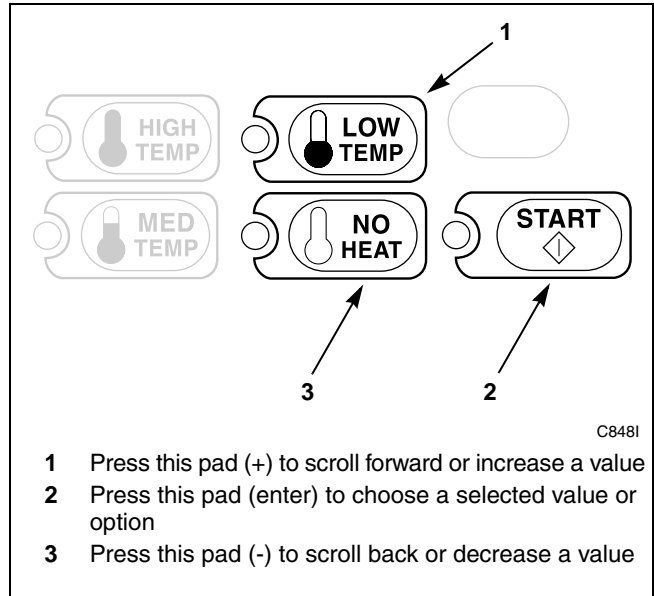

Figure 149
5. Press the LOW TEMP (+) or the NO HEAT (-) keypad to increase or decrease the current number of minutes displayed in the VFD to the desired number of minutes. Refer to *Figure 149*.
**NOTE: The No Heat Cycle Time Minutes can be set from one (1) to 99 minutes.**